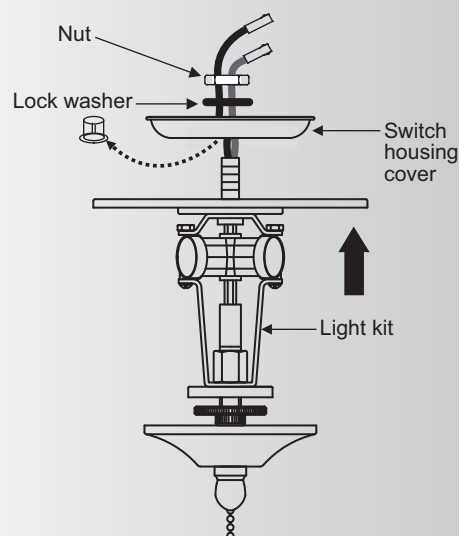

Fig. 15
1. Remove the plastic plug from the switch housing cover, attach the light kit to the switch housing cover by feeding the light kit wires (black and white) through the hole of switch housing cover and then screw it onto the switch housing cover by nut & lock washer provided. Be sure it is tight enough to prevent light kit from vibrating loose. (Fig. 15)